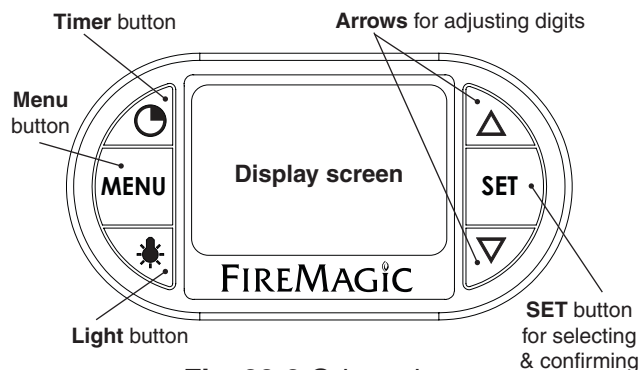

Fig. 28-2 Orientation
Read the following sections completely regarding thermometer operation. Refer to Fig. 28-2 for thermometer orientation and button locations.
1. Press the light button to turn both the interior oven lights and knob backlights ON (see Fig. 28-2). The interior oven lights will temporarily shut off when the hood is closed (except for Magic View models).